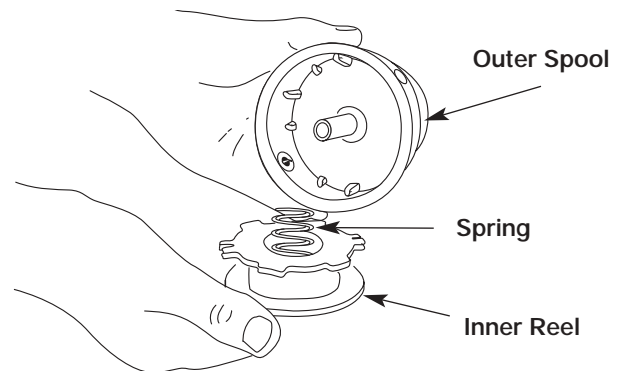

Fig. 32
2. Remove the inner reel from the outer spool (Fig. 32).
- Remove spring from the inner reel (Fig. 32).
2. Remove the old inner reel from the outer spool (Fig. 32).
3. Remove the spring from the old inner reel (Fig. 32).